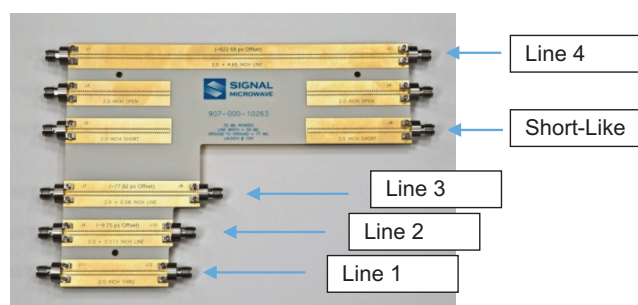

Figure 1. LRL Calibration Kit
- A signal microwave LRL calibration kit (Figure 1)
Perform a 1-port full calibration on the ShockLine VNA and measure  $\tau$ , the delay in ps, for each line (shown in Figure 1). In this case: Line 1 is 355ps; Line 2 is 365ps; Line 3 is 438ps; Line 4 is 999ps; short-line is 316ps. Note:  $\tau = \text{electrical length} \times \text{speed of light}$ . Once the delay is measured, to calculate the effective or electrical length simply divide the delay by the speed of light.